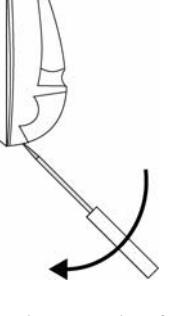

Fig. 1 Open the Housing
- Insert a small flat-blade screwdriver at the tab on the bottom of the unit. The screwdriver will enter the slot at about a 45° angle. Press downward on the handle of the screwdriver until the latch holding the cover to the housing base releases (Fig. 1).
- Place a selection jumper on the appropriate frequency band selection pins (Fig. 1).
- Place a selection jumper on the appropriate pulse count selection pins (Fig. 1).
- Install the battery (Fig. 1).